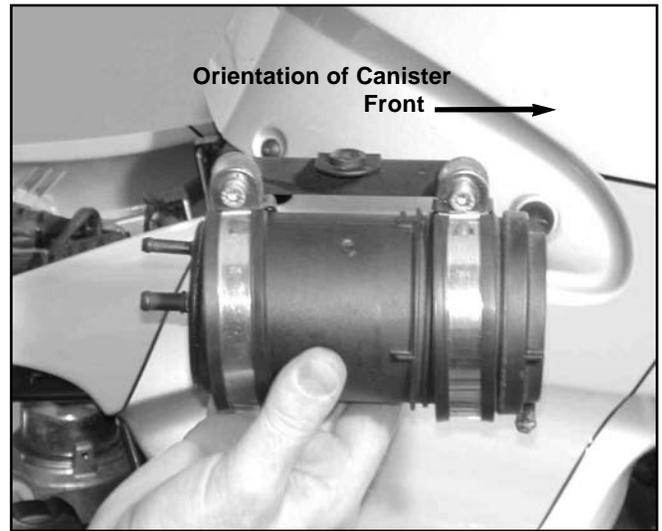

Figure 7
3. Using the straps in the same manner as originally used, attach the Relocation Bracket to the Evaporative Emissions Canister. The Canister outlet tube will face forward on the motorcycle and the threaded tab on the Relocation Bracket will be away from the Canister pointing toward the right side of the motorcycle. Attach the straps to the Canister using the short screws and two nuts from the disassembly. See figure 7.